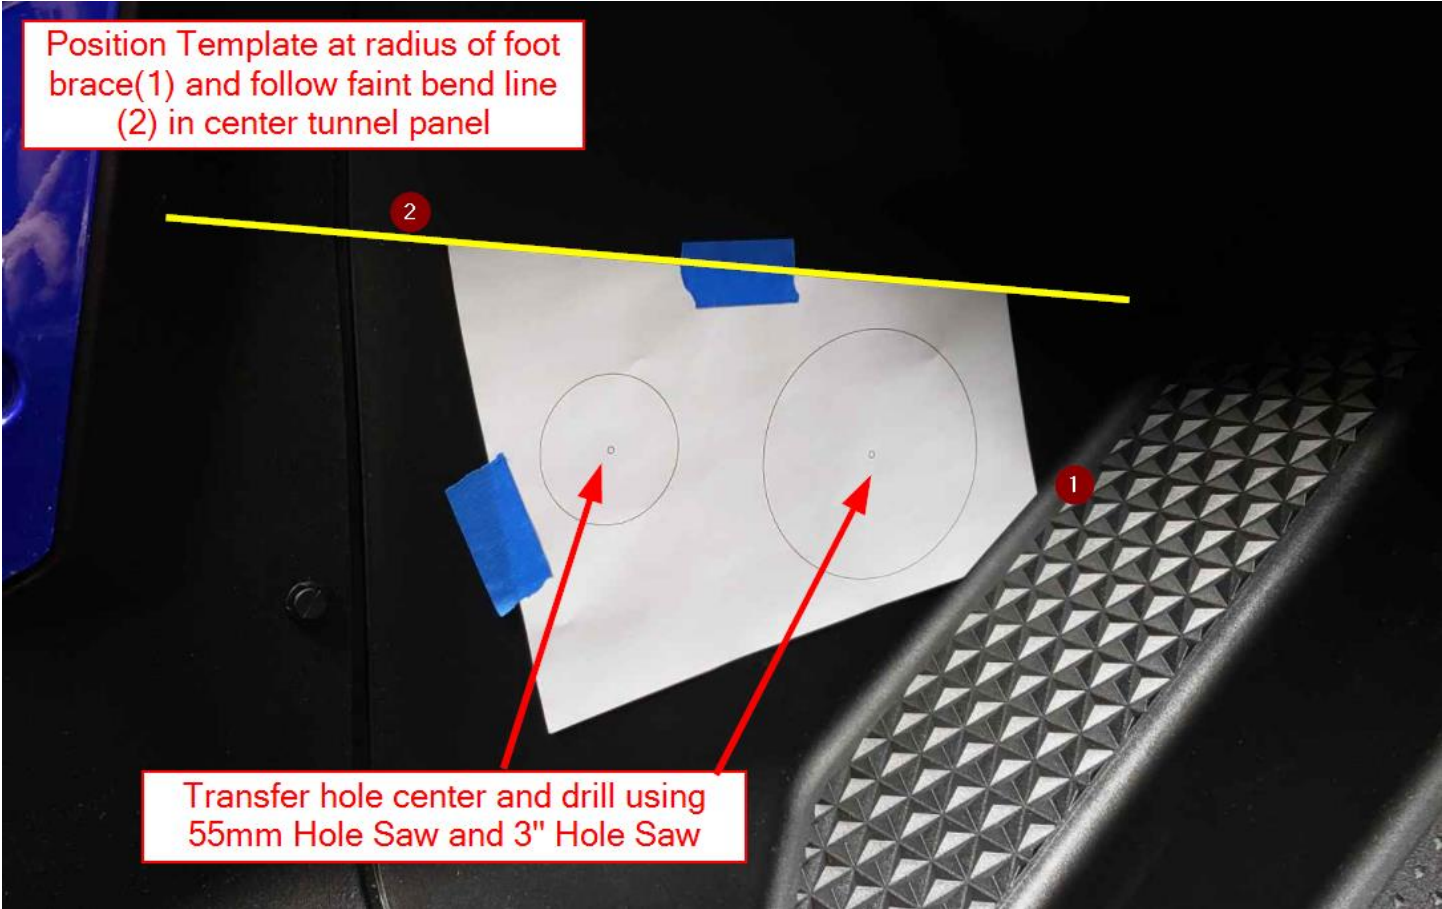

Figure 11
- f. Position the Passenger Side Footwell Template as shown in Figure 11. Transfer the two hole centers and drill using the 55mm Hole Saw and 3" Hole Saw.